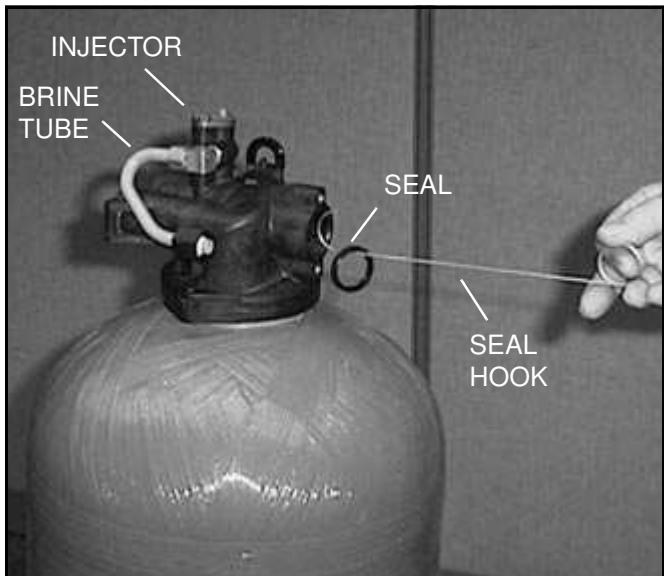

Figure 2 *Removing Special Tool From Valve Body
6. Remove the seal first using the wire hook with the finger loop (see Fig.2).